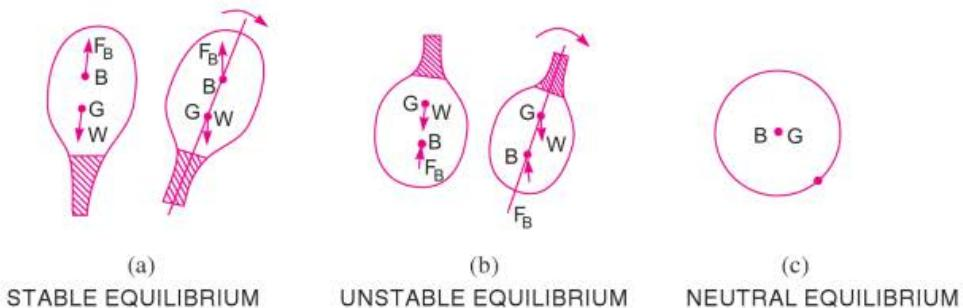

Fig. 4.12 *Stabilities of sub-merged bodies.*
4.7.1 Stability of a Sub-merged Body. The position of centre of gravity and centre of buoyancy in case of a completely submersed body are fixed. Consider a balloon, which is completely submersed in air. Let the lower portion of the balloon contains heavier material, so that its centre of gravity is lower than its centre of buoyancy as shown in Fig. 4.12 (a). Let the weight of the balloon is W . The weight W is acting through G , vertically in the downward direction, while the buoyant force F_B is acting vertically up, through B . For the equilibrium of the balloon $W = F_B$. If the balloon is given an angular displacement in the clockwise direction as shown in Fig. 4.12 (a), then W and F_B constitute a couple acting in the anti-clockwise direction and brings the balloon in the original position. Thus the balloon in the position, shown by Fig. 4.12 (a) is in stable equilibrium.
(b) **Unstable Equilibrium.** If $W = F_B$, but the centre of buoyancy (B) is below centre of gravity (G), the body is in unstable equilibrium as shown in Fig. 4.12 (b). A slight displacement to the body, in the clockwise direction, gives the couple due to W and F_B also in the clockwise direction. Thus the body does not return to its original position and hence the body is in unstable equilibrium.
(c) **Neutral Equilibrium.** If $F_B = W$ and B and G are at the same point, as shown in Fig. 4.12 (c), the body is said to be in neutral equilibrium.